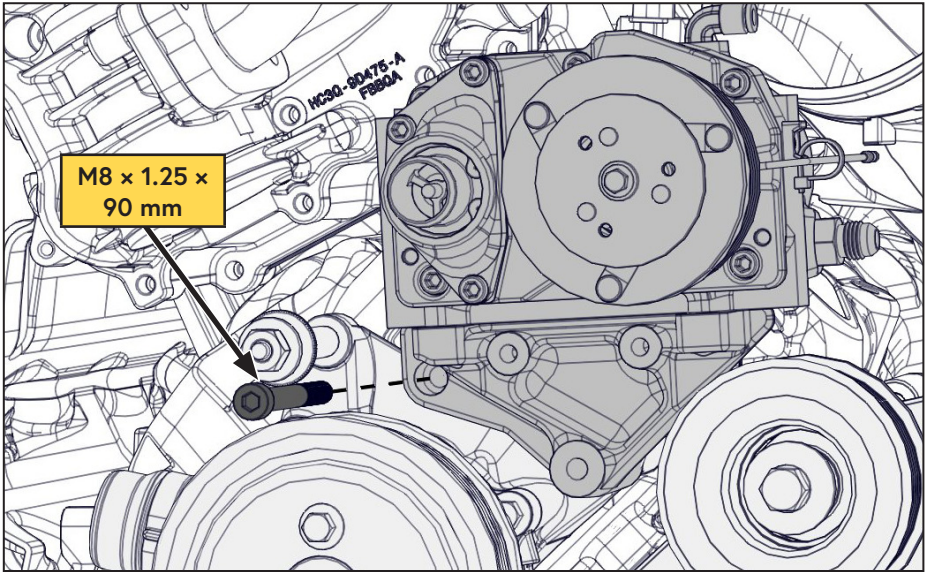

Figure 14 — Mounting the compressor to the engine
- Mount the compressor and main bracket assembly onto the engine (Figure 14).